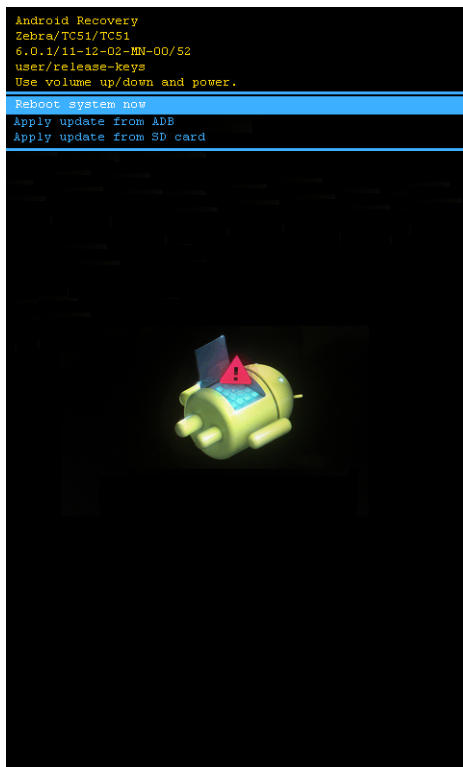

Figure 6-5 System Recovery Screen
10. Press Enter. The System Recovery screen appears. See Figure 6-5 on page 6-10.
5. Press and hold the PTT button until the device vibrates. The System Recovery screen appears. See Figure 6-5 on page 6-10.